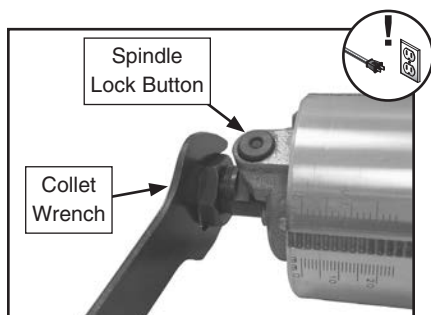

Figure 7. Collet wrench and lock button.
4. Use collet wrench to loosen collet nut, and remove router bit (see **Figure 7**).